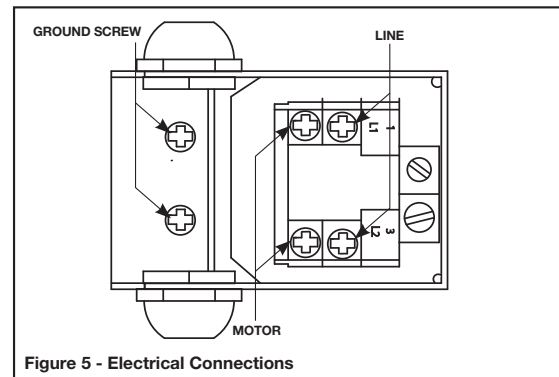

Figure 5 - Electrical Connections
- There is only one proper ground terminal on the unit. The terminal(s) is located under the pressure switch cover, is painted green and is identified as GRD. The ground connection must be made at this terminal (Figure 5). The ground conductor must not be smaller than the circuit conductors supplying the motor.